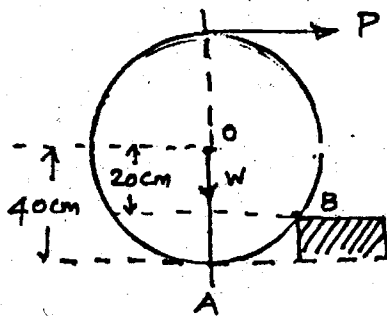

Fig. 4
12. (a) A roller of radius 40 cm weighing 3000 N is to be pulled over a rectangular block of height 20 cm as shown in fig. 4 by a horizontal force applied at the end of a string wound round the circumference of the roller. Find the magnitude of the horizontal force which will just turn the roller over the corner of the block. Also determine the magnitude and direction of reaction at A and B. Assume all surfaces are smooth.